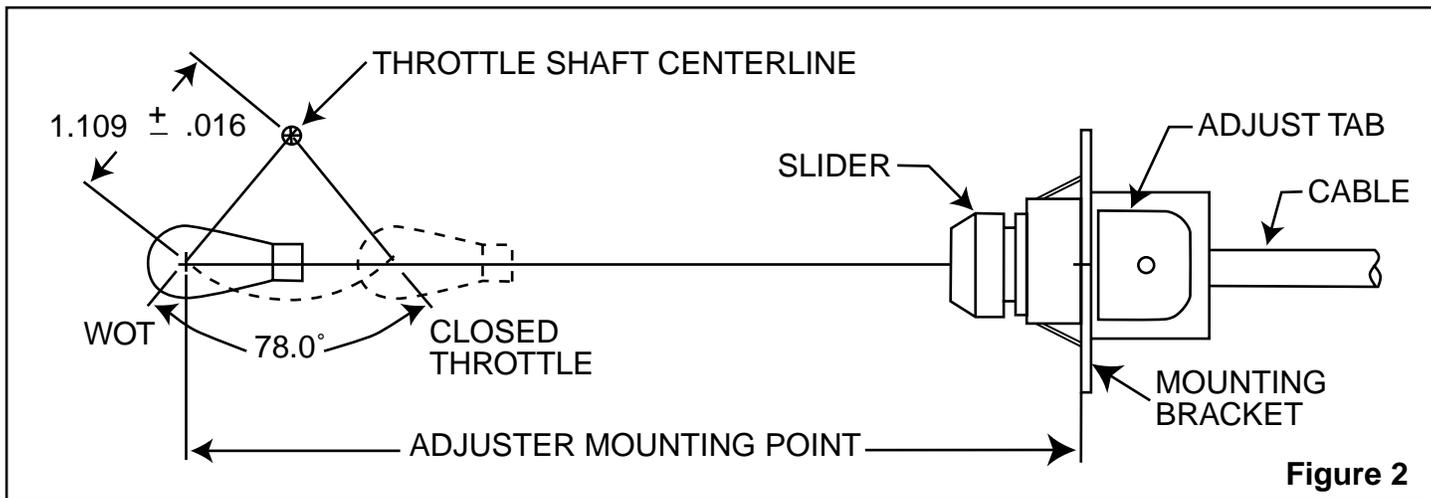

Figure 2
Figure 2 demonstrates the correct geometry for the TV Cable mounting position. Use the following procedure to determine if your ADJUSTER MOUNTING POINT is correct.
- Also note in **Figure 2** that the distance from the throttle shaft to the cable end is referenced. This distance must be between $1 \frac{7}{64}$ " and $1 \frac{1}{8}$ "! The cable end mounting